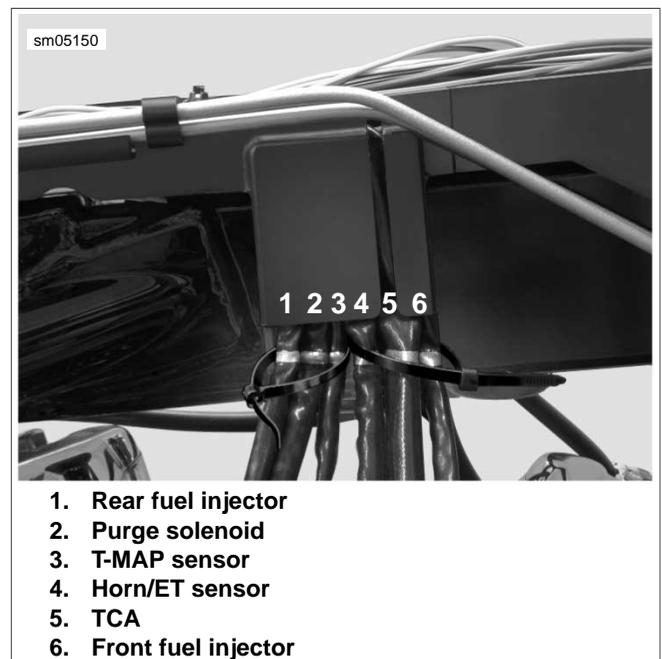

Figure 8-102. Feed Conduit Into Breakout Compartment
3. See Figure 8-102. Install breakouts as follows:
12. Alternately pull on each length of conduit exiting the breakout compartment until painted lines are aligned with cable straps loosely installed. See Figure 8-102. Tighten cable straps and cut any excess cable strap material.